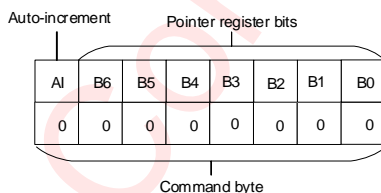

Figure 28 I2C Read Byte Cycle
Following the successful acknowledgement of the slave address byte, the bus master sends a command byte, which is write only and stored in the pointer register in the AW95124. The lowest 7 bits are used as a pointer to determine which register is accessed and the highest bit is used as Auto-Increment (AI) as shown in Figure 28. At power-up, hardware or software reset, the pointer register defaults to 00h, with the AI bit set to '0' and the lowest seven bits set to '000 0000'.